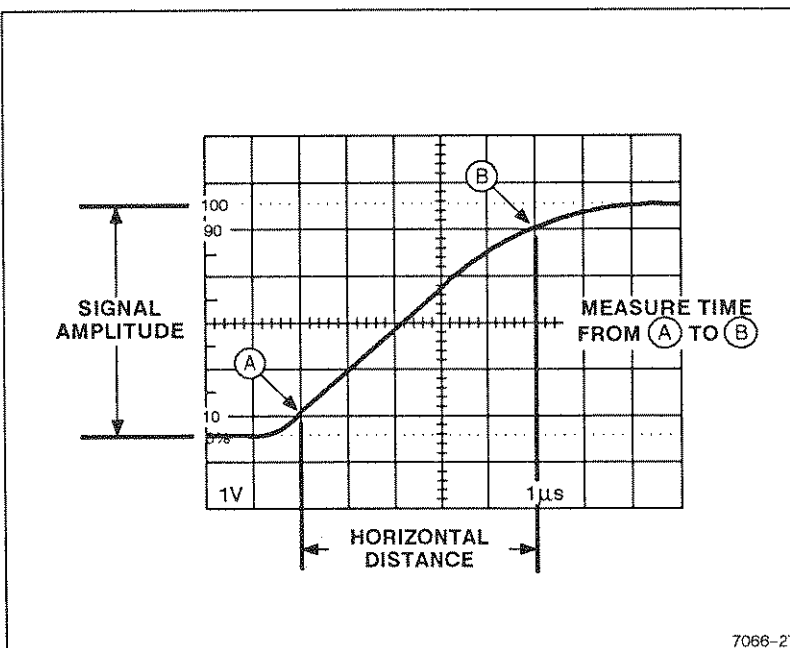

Figure 6-6. Rise time.
Rise-time measurements use the same methods as time duration, except that the measurements are made between the 10% and 90% points on the leading edge of the waveform (see Figure 6-6). Fall time is measured between the 90% and 10% points on the trailing edge of the waveform.
4. Adjust vertical positioning so that the zero reference of the waveform touches the 0% graticule line and the top of the waveform touches the 100% graticule line (see Figure 6-6).
6. Horizontally position the display so the 10% point on the waveform intersects the second vertical graticule line (see Figure 6-6, Point A).
EXAMPLE: The horizontal distance between the 10% and 90% points is 5 divisions (see Figure 6-6), and the A SEC/DIV switch is set to 1  $\mu\text{s}$ . The X10 magnifier knob is pushed in (1X magnification).